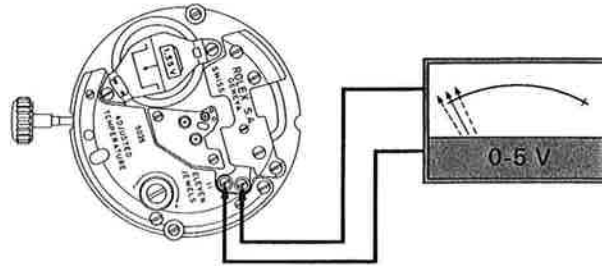

Fig. 13
9.10. Check whether there are impulses at the output of the electronic module (Fig. 13).